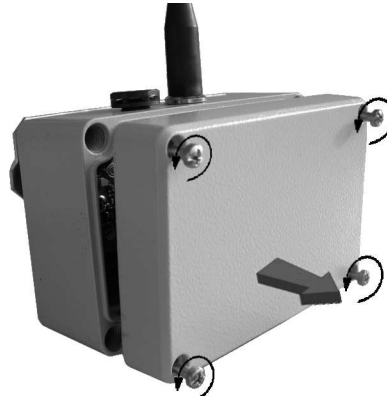

Figure 3. Removing the addSDI Lid
1. Open the lid by unscrewing the four screws in the corners of the addSDI RTU, then remove the lid as shown in Figure 3.